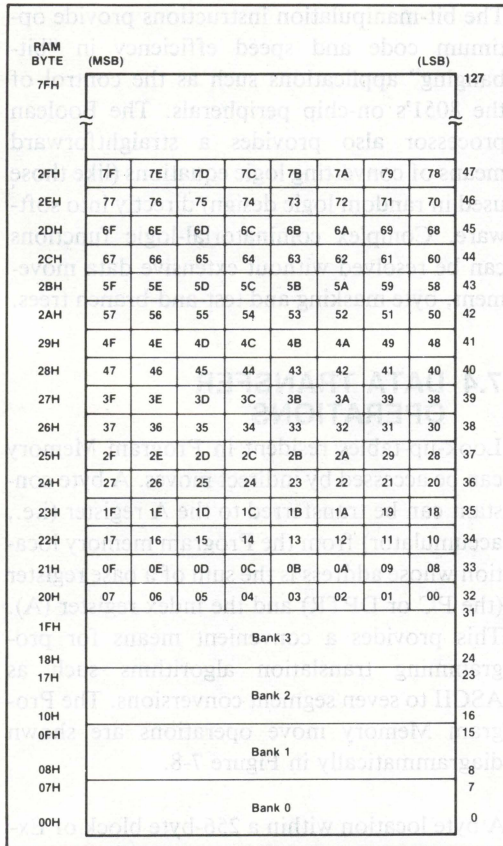

Figure 7-6. RAM Bit Addresses
Register Addressing permits access to the eight registers (R7-R0) of the selected Register Bank (RB). One of the four 8-Register Banks is selected by a two-bit field in the PSW. The registers may also be accessed through Direct Addressing and Register-Indirect Addressing, since the four Register Banks are mapped into the lowest 32 bytes of Internal Data RAM as shown in Figures 7-6 and 7-7. Other Internal Data Memory locations that are addressed as registers are A, B, C, AB and DPTR.